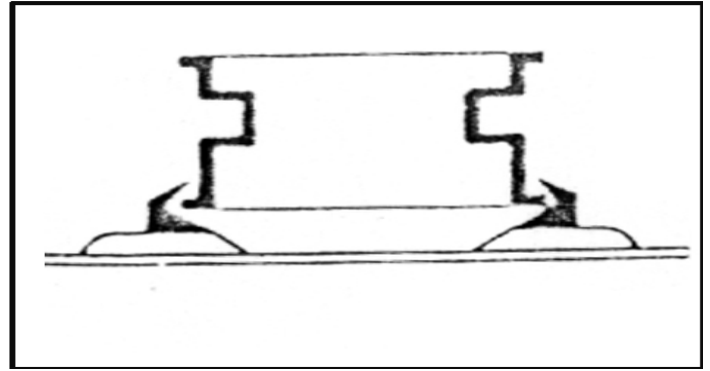
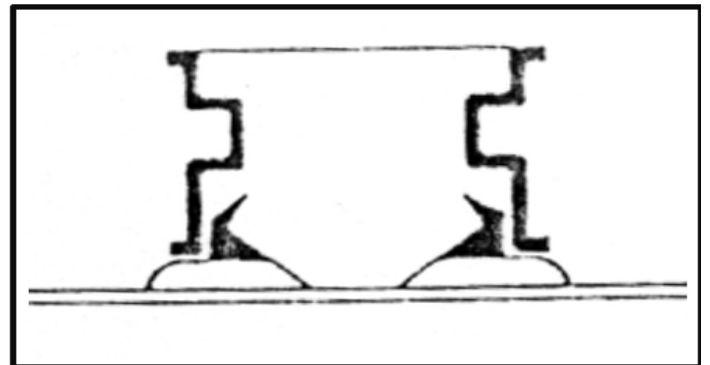
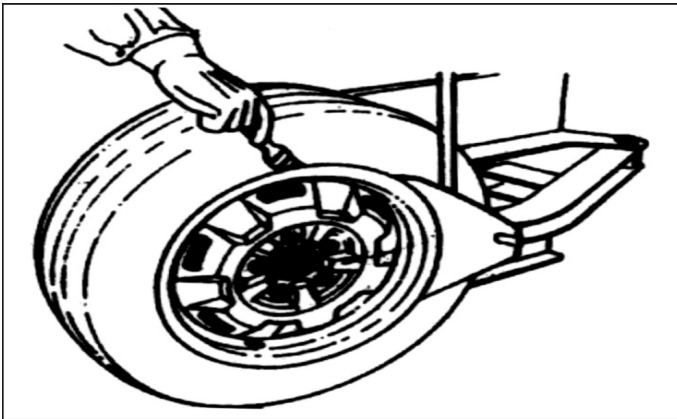

FIG20
FIG21
FIG19
4.1.2 Place the tire between the bead breaking blade and tire pressing runner clog. Position the bead breaking blade beside the lateral side of the tire (FIG19). Then step down the pedal to detach the rim from the tire (fig2-10). Repeat the same operation on the other parts of the tire to make the tire completely detached from the rim. To detach the lip smoothly, you can use the brush to spread the lubricant or thick soap liquid between the lip and rim. Place the wheel with the tire detached from the rim on the turntable and step the clamp pedal (fig2-9) to clamp the rim. You can select the outer clamp (fig20) and inner clamp (fig21) to clamp the wheel according to the different rim.